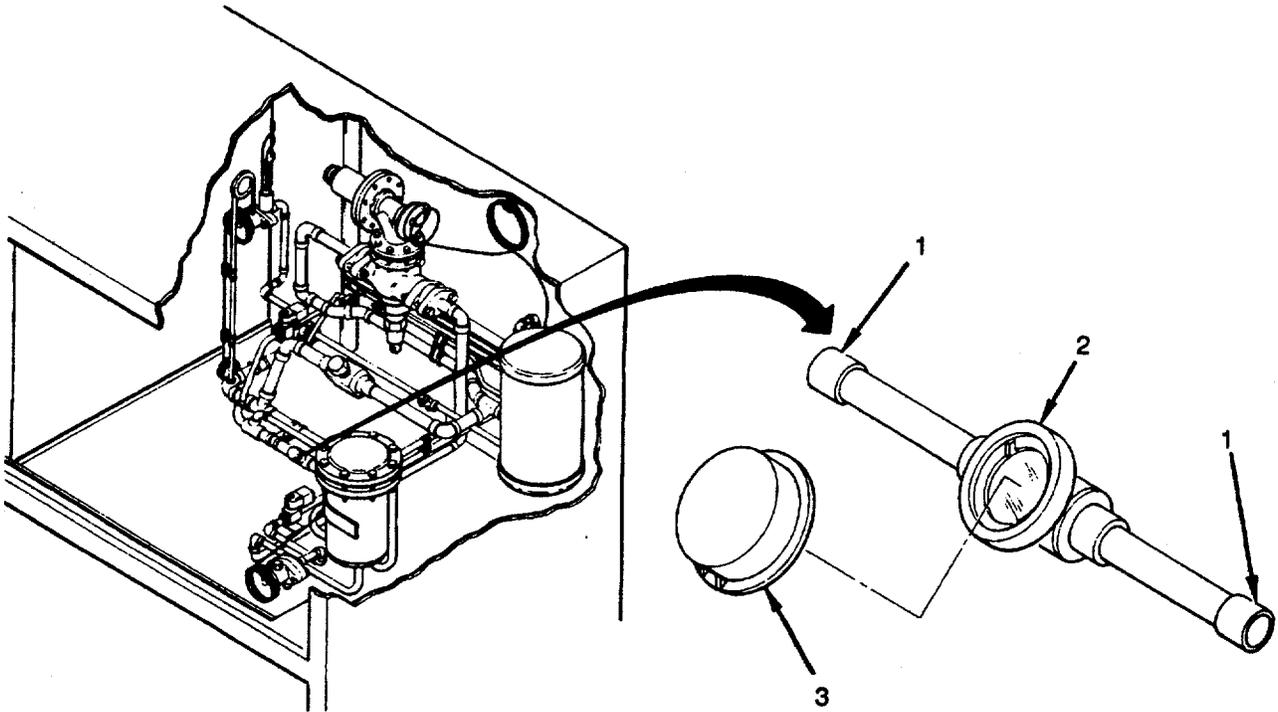

Figure 5-17. Sight Glass
1. Inspect for evidence of leaks, damaged lines, and loose or missing mounting hardware (see Figure 5-17).